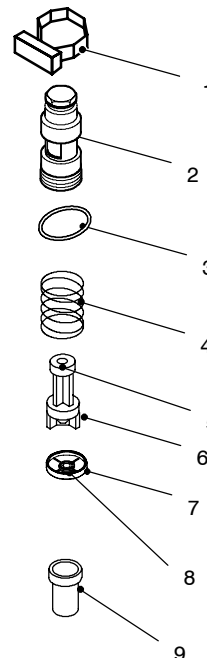

Fig. 14.3
When the flow rate through the d.h.w. circuit reaches about 2,5 litres/min', the float 6 (Fig. 14.3) is drawn towards the right.
### 14.2 Description and location of parts (Fig. 14.3)
- 3 Unscrew the body 2 (Fig. 14.3) and extract the flow switch group.
- 4 To remove the filter from the flow switch group separate the filter 9 from the threaded ring (Fig. 14.3) by levering it.
- 3 Unscrew the threaded ring 7 (Fig. 14.3) and remove it from the body 2.